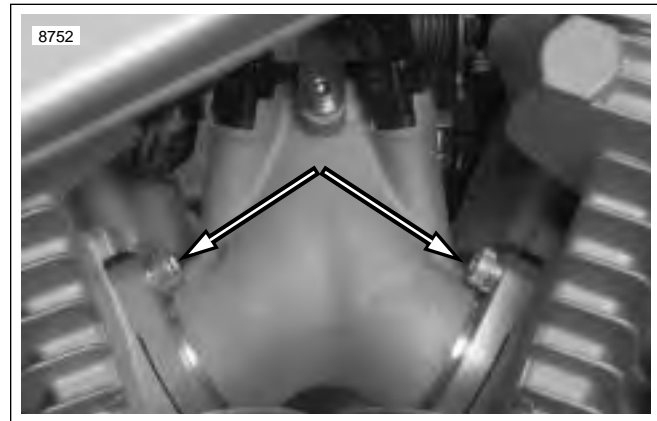

Figure 4-108. Intake Manifold Fasteners (gearcase cover side)
- b. Remove fastener (1) holding manifold to engine mount.
- c. See Figure 4-108. On gearcase cover side, remove both intake flange fasteners from cylinder heads.